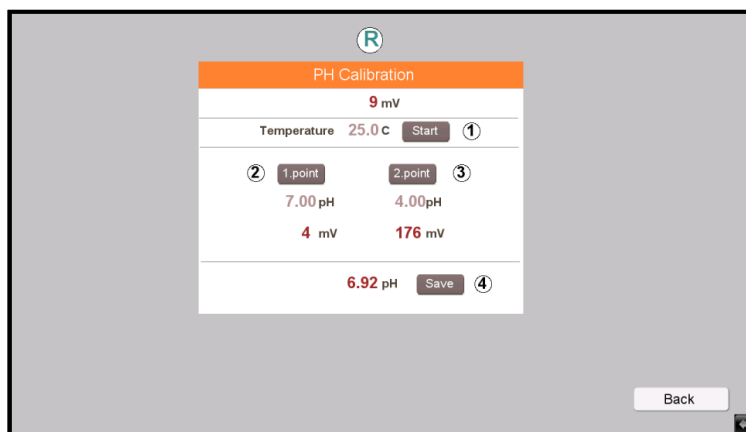

Figure 0.3. pH calibration wizard for calibration of the first buffer solution
- 3) Enter the first buffer solution pH value (see Figure 0.3) by clicking on the digits under the **1. POINT** button.